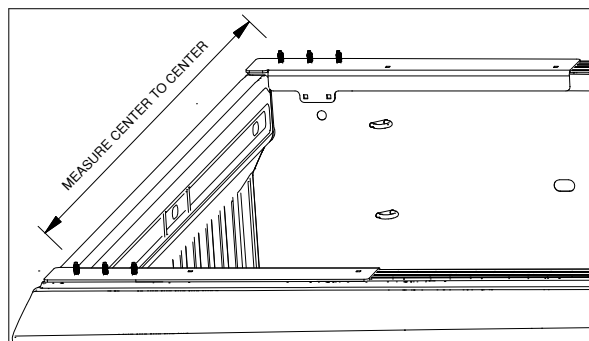

Figure A1: View looking at front of bed.
- 1. Verify proper fit of cab protector.** Place the bed protectors on the pickup sides as shown in Figure A1. Make sure the bed protector flange is pushed tightly against the front of the bed and the inside of the bed sides. Measure across the truck from the center of the middle threaded stud on the driver side to the center of the middle stud on the passenger side. Next, measure the distance between the two middle mounting slots on each side of the cab protector. The two measurements should be within 1/2" of each other.